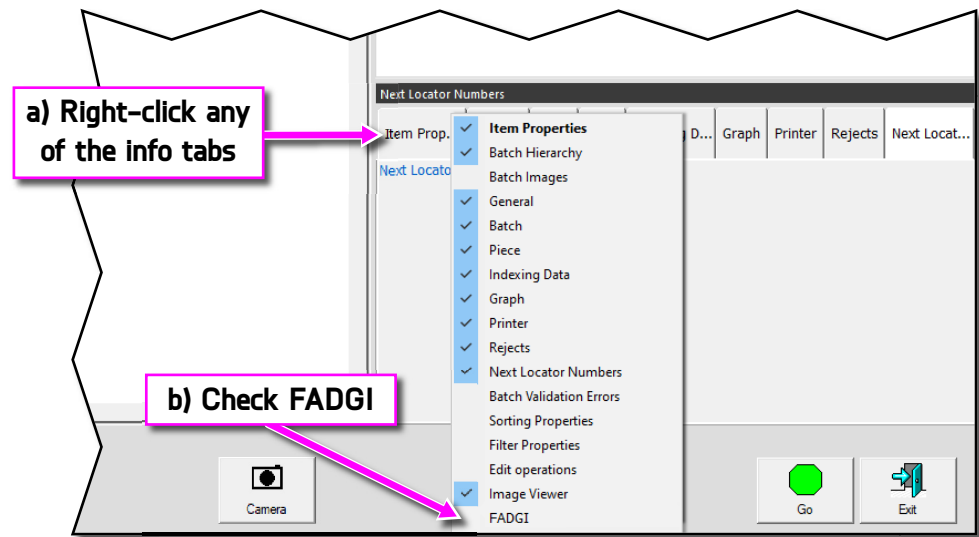

Figure 3-32: Open FADGI Information Window tab
2. Open the FADGI tab in the Information Window (Figure 3-32).